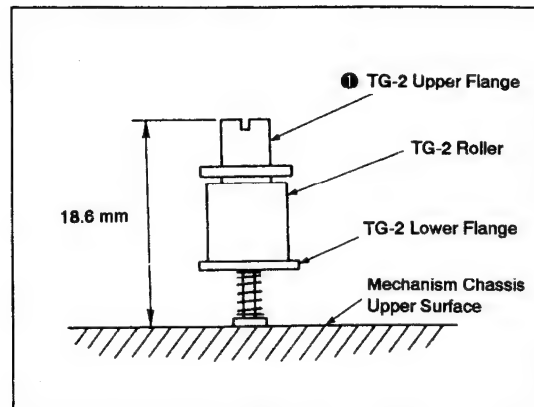

Fig. 3-10.
3. TG-2 Height Preset (see Fig. 3-10.)